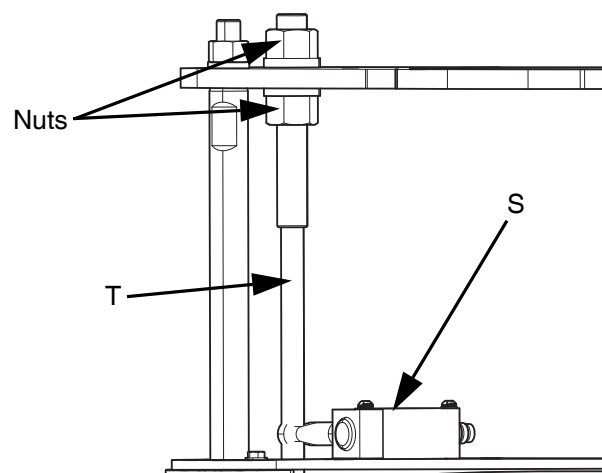

FIG. 15: Low Level Machinery
Adjust the nut position along the low level switch bar (T) as shown in FIG. 15.